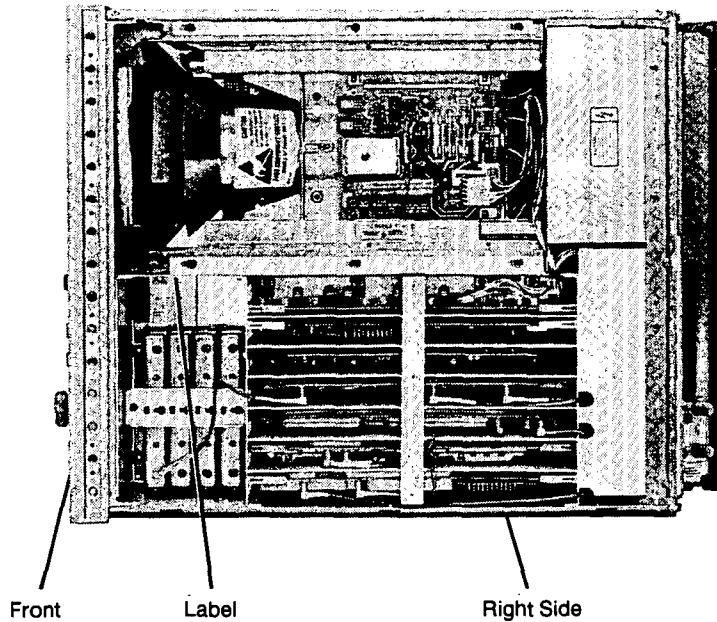

Figure 4. Location of Registration Number Label
1. Remove the top cover of the instrument. Check the A9 CC jumper position (it must be in the ALTER position). Note the registration number on the registration number label (see Figure 4).